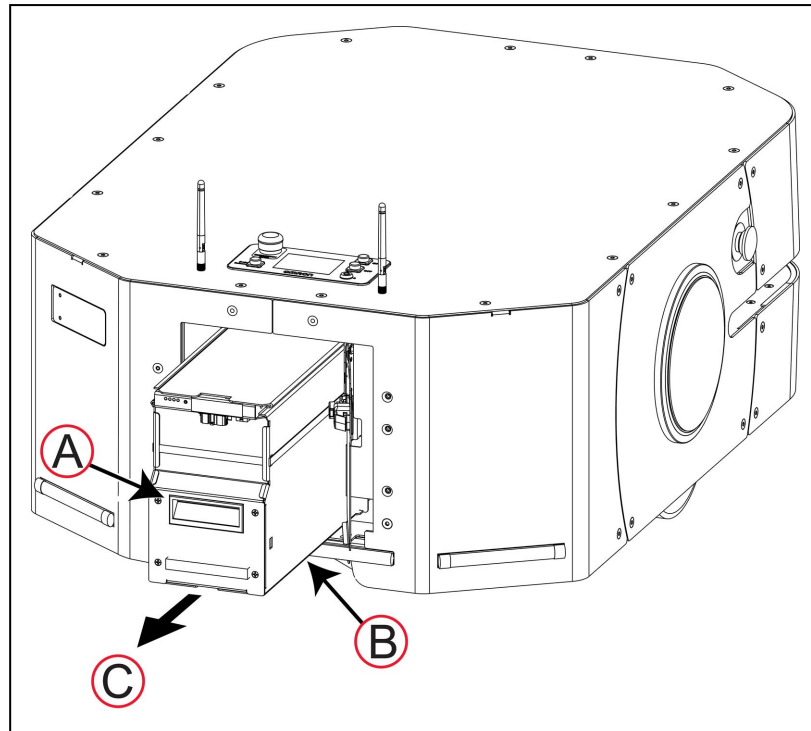

Figure 8-9 Pull out the LD-250 Battery
5. Using only the hand grip (A) in Figure 8-9, slide the battery out of the LD-250.
6. Support the battery at the bottom (B) as you pull it in the direction of the arrow (C) to prevent it from falling.